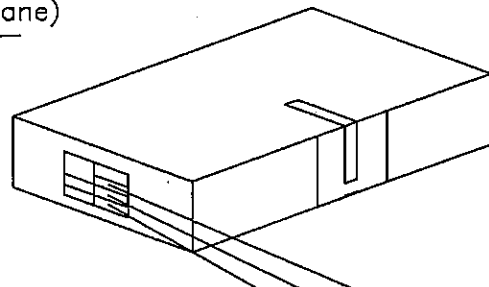

Fig.4
3. Seal the packing box, and print the model No., quantity and lot No. (500pcs. / a packing box) (Fig. 4)